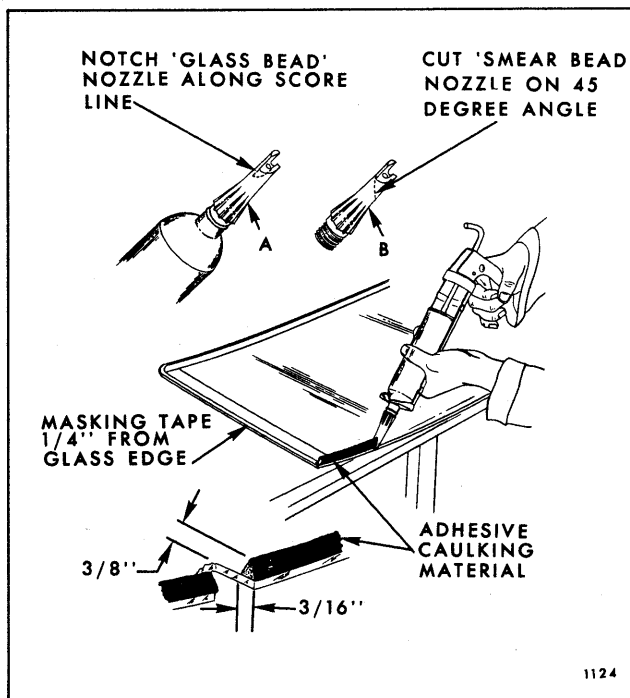

Fig. 5-11—Adhesive Caulking Material Application - Extended Method
8. Apply one inch masking tape completely around inner surface of glass 1/4" inboard from outer edge (see Fig. 5-11). Removal of tape after glass installation will aid in clean-up and give a smooth even edge to adhesive material.
- Positioning gun and nozzle as shown in Figure 5-11, carefully apply a smooth continuous bead of caulking material $3/8''$ high by $3/16''$ wide at base completely around edge of glass.